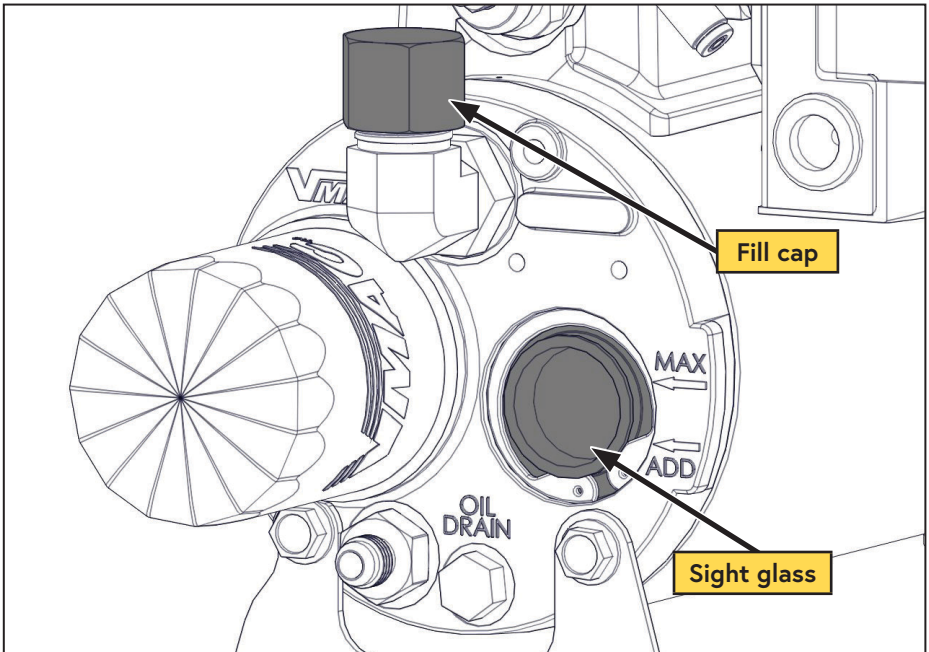

Figure 34 — Filling the WHASP Tank
- Remove the fill cap on the WHASP Tank (above the sight glass) (Figure 34).
- Using a funnel, pour oil into the tank until the oil level in the sight glass reaches the "MAX" line. The system capacity is 4 L (Figure 34).